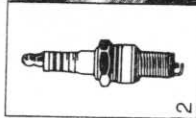

Fig. 6
- Disconnect the plug adapter. (1)
- Adjust the gap as specified in the Fig 6.